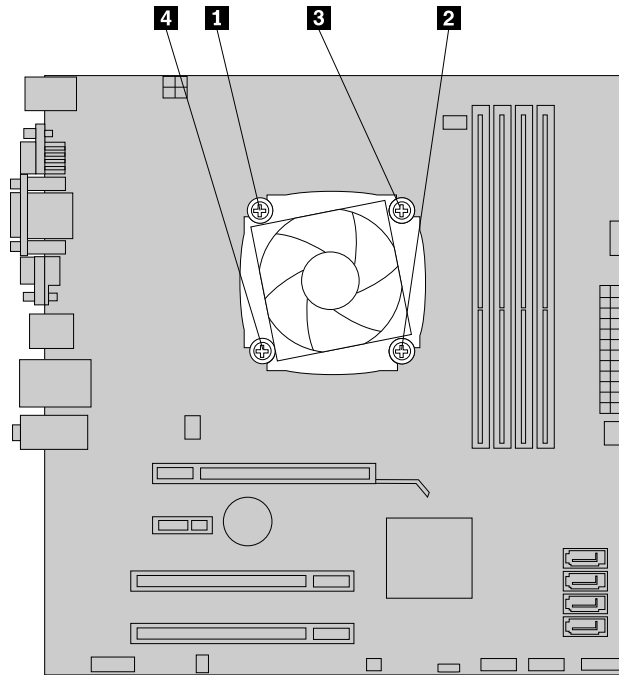

Figure 54. Screws that secure the heat sink and fan assembly
- Follow this sequence to install the four screws to secure the new heat sink and fan assembly, as shown in Figure 54 “Screws that secure the heat sink and fan assembly” on page 118: